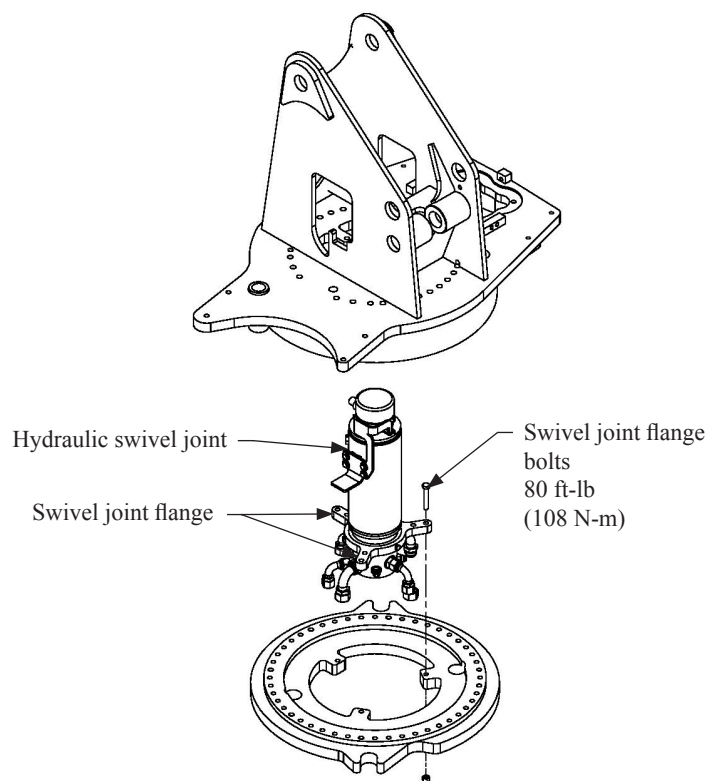

Figure 28 - Location of swivel joint bolts
- The hydraulic swivel joint (See *Figure 28 on page 78*).
2. Check the two sets of swivel joint bolts shown in *Figure 28*, below for the correct torque values.